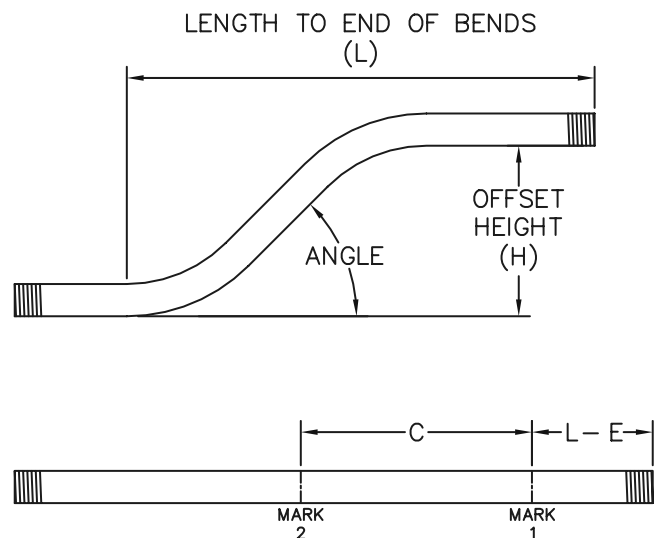

FIGURE 18B
1. Determine the length to the end of bends (L), offset height (H) and angle for the offset (See figure 18B).
3. Using the desired angle, locate the "E" value that corresponds to the desired height (H). Deduct this value from the length (L) and make a mark this distance from the end of the conduit. This is your first bending mark (Mark 1).
4. Next, locate the "C" value that corresponds to the desired height (H). Make a mark the distance "C" from Mark 1. This is your second bending mark (Mark 2).